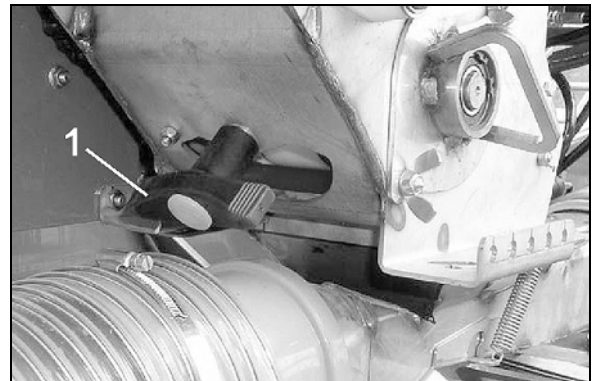

Fig. 124
5. Turn the handle (Fig. 124/1) to open residue emptying flap.
8. Close the flap for emptying residual amounts (Fig. 124) and affix the calibration tray on the transport retainer.